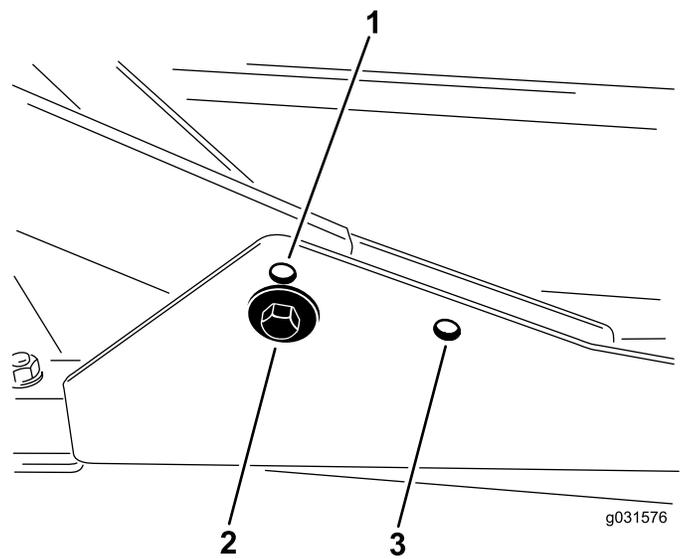

Figure 11
1. For heights of cut in the 2 to 7.6 cm (3/4 to 3 inches) range, mount the front carrier frames in the lower, front mounting holes (Figure 11).
2. For heights of cut in the 6.3 to 10 cm (2-1/2 to 4 inches) range, mount the front carrier frames in the upper, front mounting holes (Figure 11).
For all heights of cut, mount the rear cutting deck in the rear mounting holes (Figure 11).